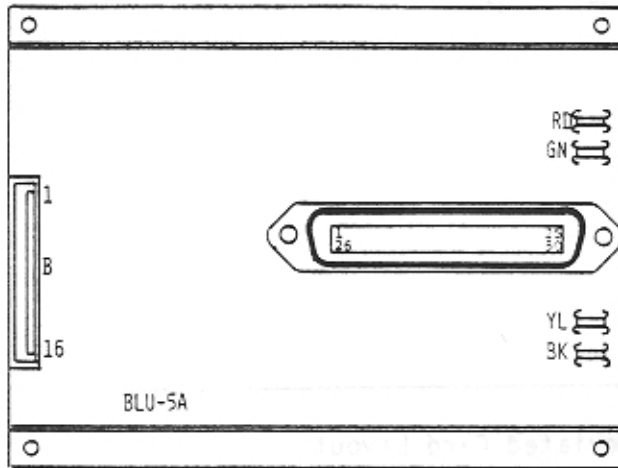

Figure 11
7.05 Figure 3 shows the location of the BLU-5A card in the KSU. Figure 11 shows the layout of the card, in-
d) Refer to figure 11 and connect the other end of the RD, GN, YL and BK leads to the corresponding spade-tip terminals on the BLU-5A.